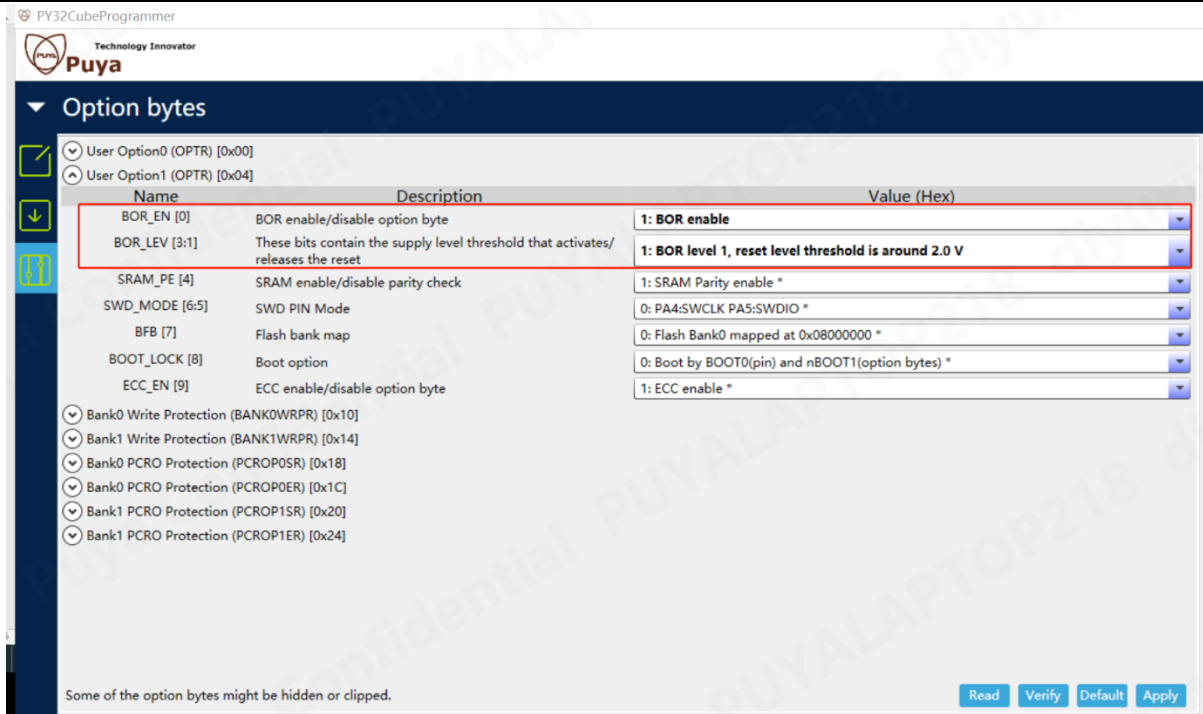

Figure 9-1
- When configuring the BOR-related options in User Option1, if BOR\_EN is enabled, BOR\_LEV must be set to BOR level1 or above. As shown in Figure 9-1, configure the BOR-related options when using PY32CubeProgrammer.